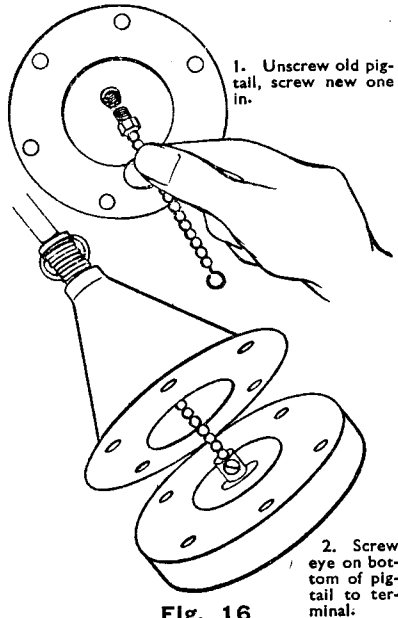

Fig. 16
- (6) Changing the aerial pigtail. Remove the aerial base by unscrewing the six fixing bolts, then fit new pigtail as shown in Fig. 16. Get the Electrician Signals to do this if possible.